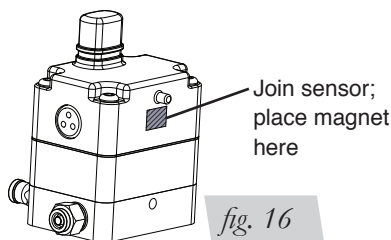

fig. 16
- Place a magnet (not included) on the rear cover of the manifold directly under the 1/8" protrusion as shown in fig. 16.